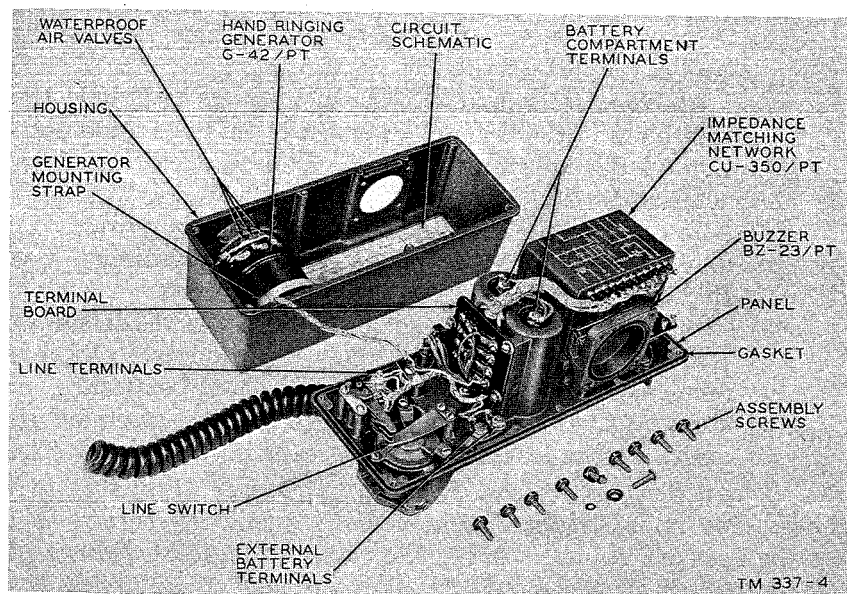

Figure 16. Telephone set TA-43/PT, panel removed.
60. Disassembly of Panel and Housing Assembly (fig. 16)
b. Remove the four assembly screws that secure the buzzer to the housing and then remove the six assembly screws on the face of the panel (fig. 16).
c. Lift the panel off the housing; be careful not to damage the leads to the ringing generator (fig. 16). All internal components now are exposed.
61. Disassembly of Hand Ringing Generator G-42/PT (fig. 16)
d. Remove the two screws and the metal strap at the rear of the generator mounting in the housing (fig. 16). Lift the generator from the housing. The spacer detail, including the three waterproof air valves, is a separate part of the telephone and can be removed at this time.
- (1) Screw one of the main assembly screws into the front end plate and tap it gently with a 4-ounce hammer until the gear case comes loose.
- (2) Remove the gear assembly from the inside of the gear case by lifting it from its stud.
- (3) Remove the spur gear and shaft by placing a small drift-pin against the shaft on the outside of the front cover and pushing the shaft to the inside.
- (4) Replace any of the disassembled parts that are worn or damaged. Lubricate parts with Grease, Aircraft and Instruments (GL), and reassemble the hand ringing generator by reversing the procedure for disassembly.
a. Battery Compartment. Remove the two screws on the inside of the cover (fig. 16) to remove the contact strip. Remove the nut on the underside of the battery compartment to free the bottom contact springs. Be careful not to damage the insulator strip which is not removed. Remove the nut holding the cover latch to remove the latch assembly.